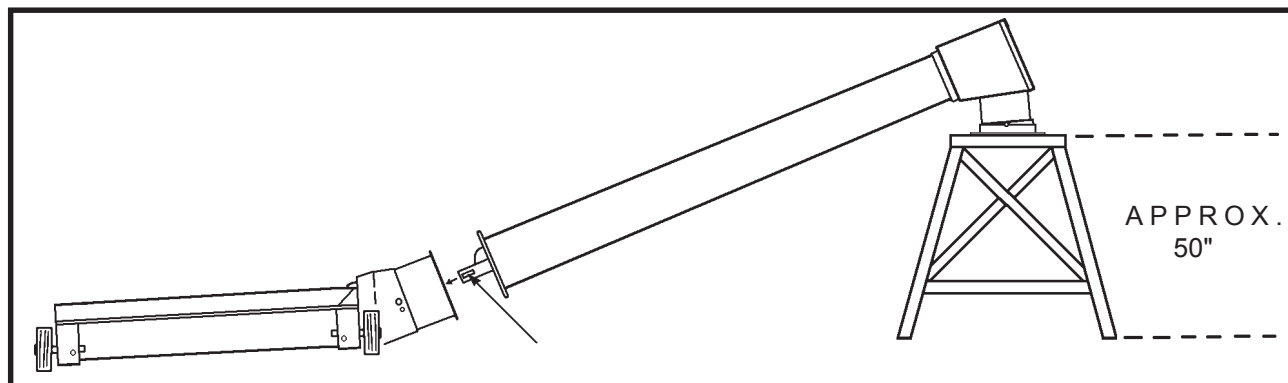

Figure No. 33
4. Raise and support hopper tube at about 50" under spout. Open service door on hopper, then bring tube and hopper together guiding flight shaft into u-joint. (See **Figure No. 33**)